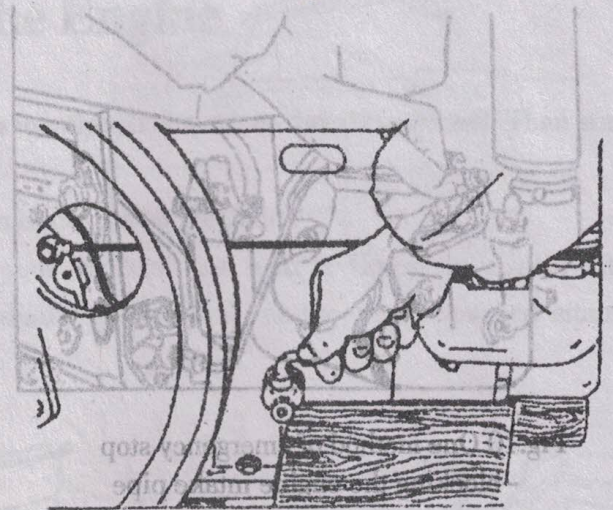

Fig. 11 Draining out cooling water
1. If the engine is to be put out of service for a long period of time, it is then necessary to drain out the cooling water completely through the drain cock on the cylinder block (Fig. 11). Especially, in winter, the cooling water must be drained out immediately after the engine has been stopped, in order to prevent subsequent cracking of cylinder block because of freezing.